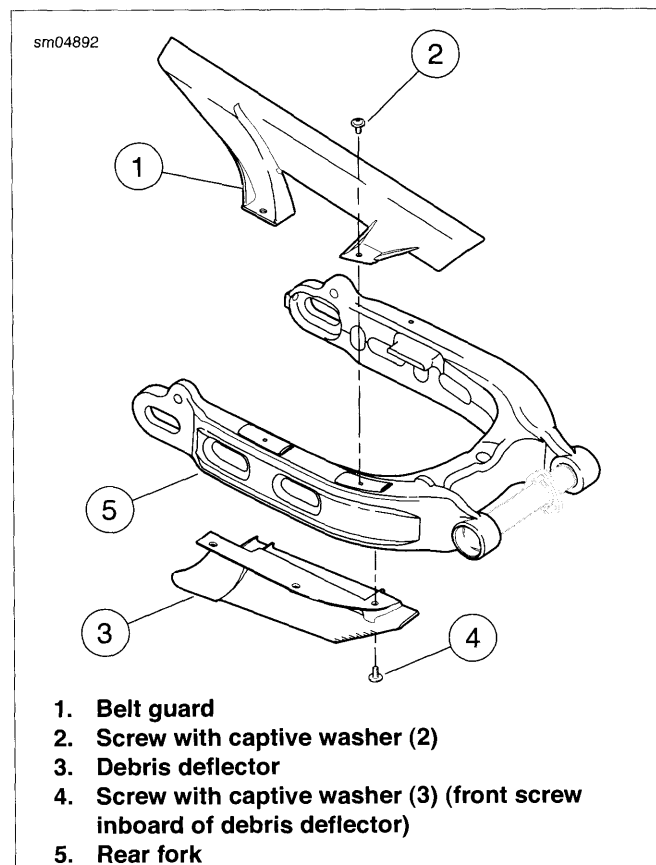

Figure 2-194. Belt Guard/Debris Deflector: XR Models
1. See Figure 2-194. Remove two screws with captive washers (2) securing belt guard to top of rear fork (5).
1. See Figure 2-194. Slide belt guard (1) into place on top of rear fork (5).
2. Secure belt guard using two screws with captive washers (2). Tighten to 72-96 **in-lbs** (8.1-10.8 Nm).
1. See Figure 2-194. Remove three screws with captive washers (4) securing debris deflector (3) to underside of rear fork (5). Note that front screw is located inboard of debris deflector.
1. See Figure 2-194. Position debris deflector (3) in place on underside of rear fork (5).
2. Secure with three screws (4). Tighten screws to 72-96 **in-lbs** (8.1-10.8 Nm).